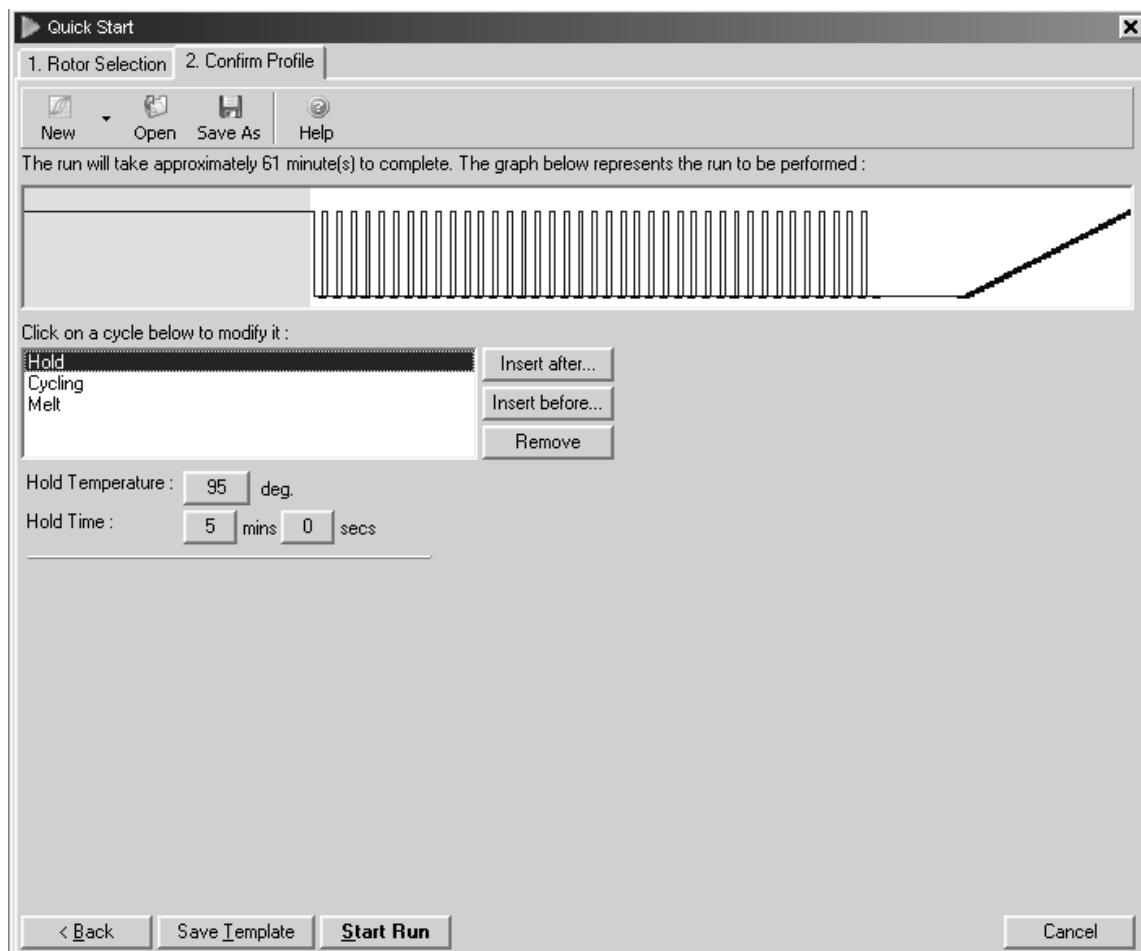

Figure 1. PCR initial activation step. PCR requires an initial incubation at 95°C for 5 min to activate HotStarTaq Plus DNA Polymerase.
- 5. Program the Rotor-Gene cycler according to the program outlined in Table 2 (page 14) and Figures 1 and 2 (pages 15 and 16).**